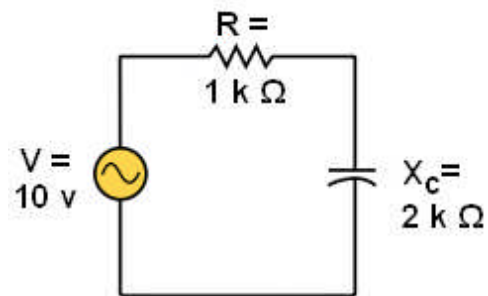

Fig. 2.5-9
1. For the circuit in Fig. 2.5-9, find the true power, reactive power, apparent power and Power Factor.